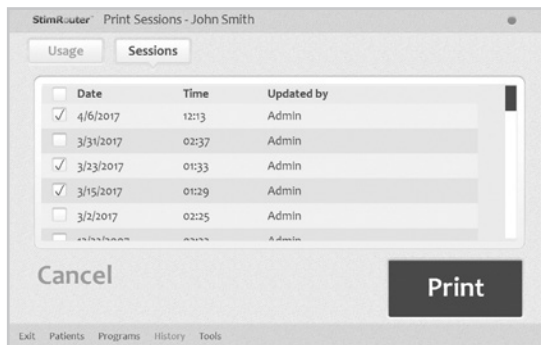

Figure 9-10. Printing multiple sessions
3. When the Print Sessions screen opens, check the box next to each session to be printed, then press the “Print” button. See Figure 9-10.